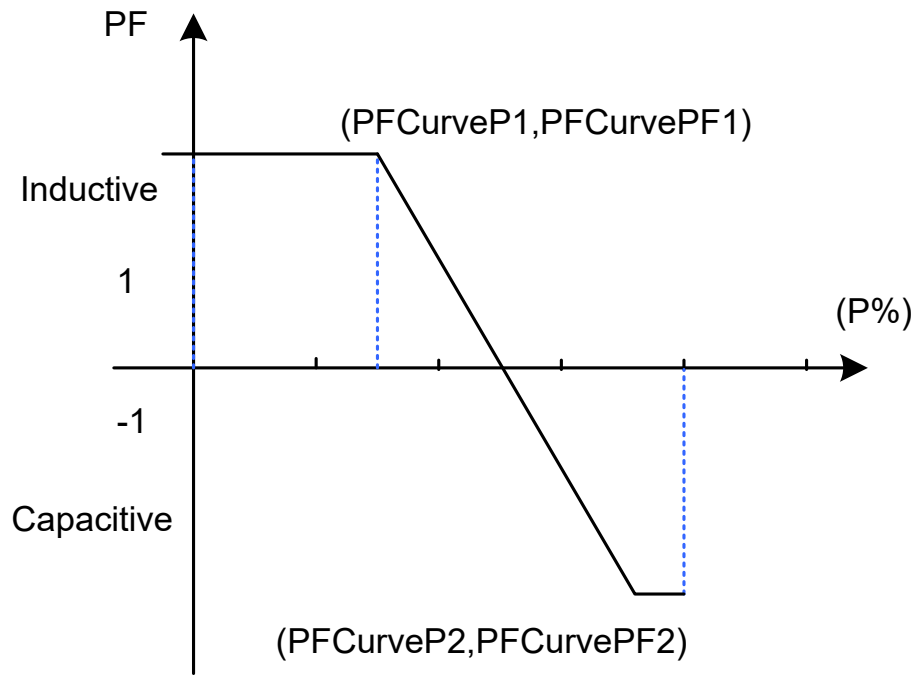

Figure 7-13 PF(P) Curve Mode Curve
2. **PF(P) Curve:** Use this mode to follow the default or user-specified PF curve. **NOTE:** The power factor changes according to the power change, as shown in Figure 7-13.